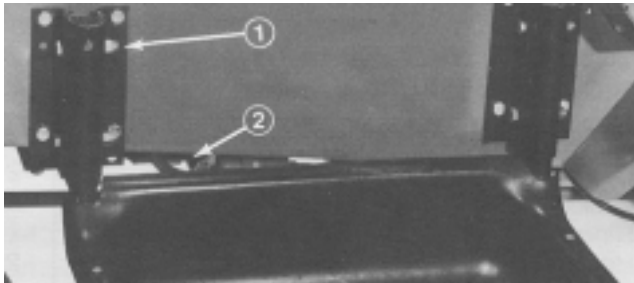

Figure 2
1. Mount lower support tube assembly to brackets with (4) 3/8–16 x 2–1/4" lg. capscrows and locknuts (Fig. 2).